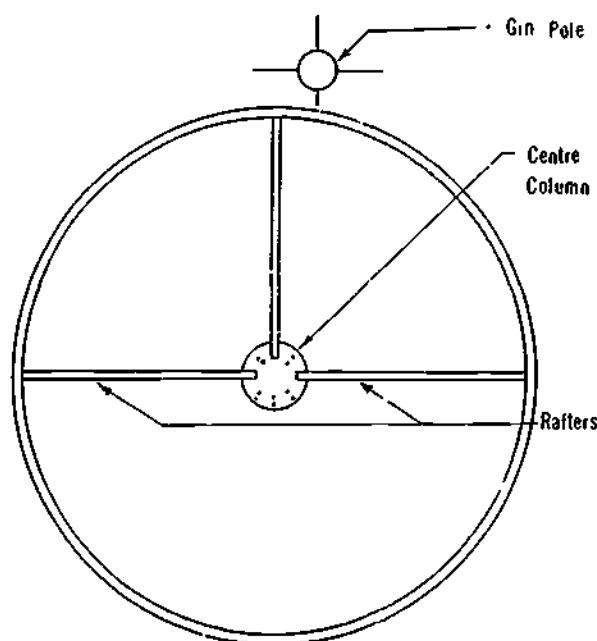

Figure 12-23. Erection of Centre Pole and Roof Support Rafters
- Step 1. Place the centre column inside the tank alongside the inside scaffold adjacent to the gin pole (Figure 12-23).